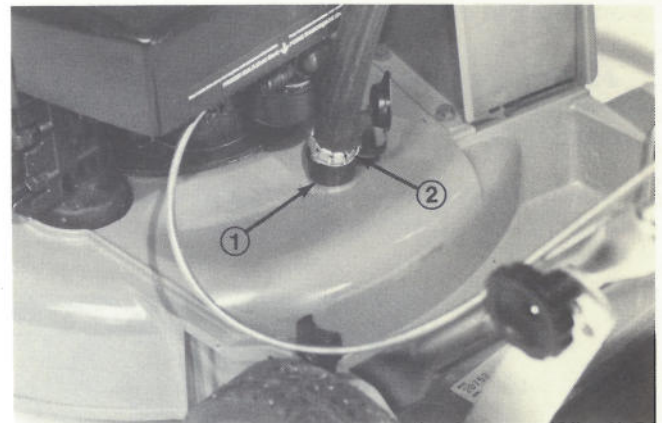
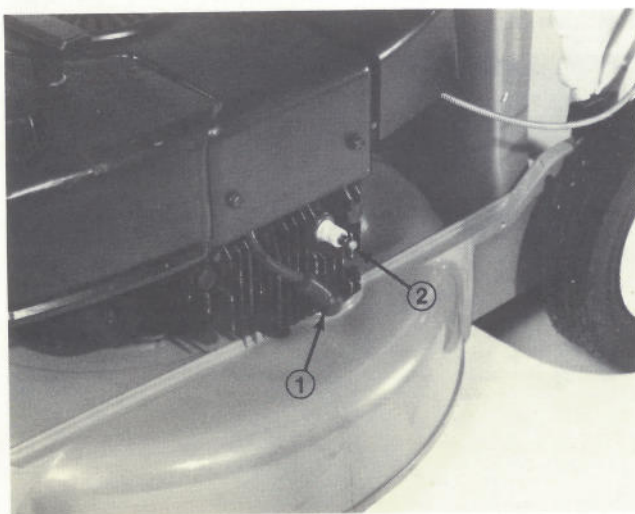

Figure 26
Figure 27
3. Start the engine. Insert end of hose, without nozzle, into wash-out port opening (Fig. 26). Using moderate water pressure, allow water and engine to run for approximately two minutes. The action created by the rotating blade and water flushes accumulations of grass clippings from underside of mower housing. When grass is no longer discharged and color of discharged water is clear again, stop the engine. Pull high tension wire off spark plug after all parts stop moving and hook end in notched hole (Fig. 27).
To reduce potential accidents, never perform an adjustment or maintenance procedure while the engine is running. Pull high tension wire (Fig. 27) off spark plug to prevent an accidental start.